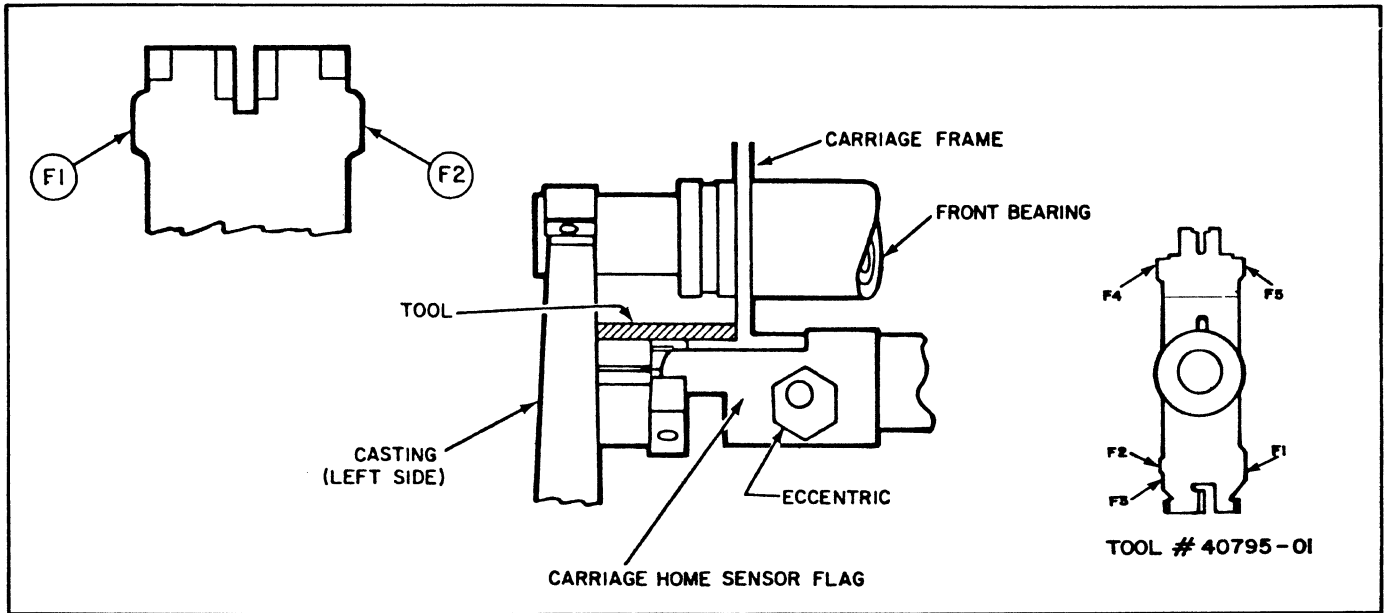

Figure 3-19. Carriage Home Adjustment
3.4.1.5 CARRIAGE HOME (Figure 3-19)